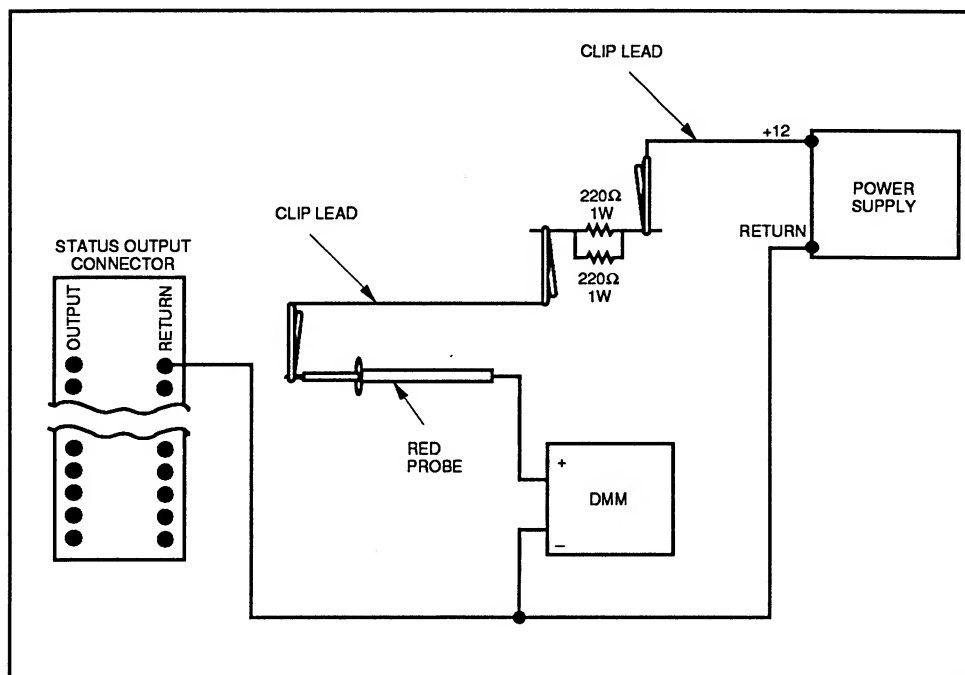

Figure 168-6. Interconnecting Output Test Equipment
7. Testing the output drive capability of each channel requires an external voltage source, a current limiting/pull-up resistor, and a DMM, interconnected as shown in Figure 168-6 and described below: